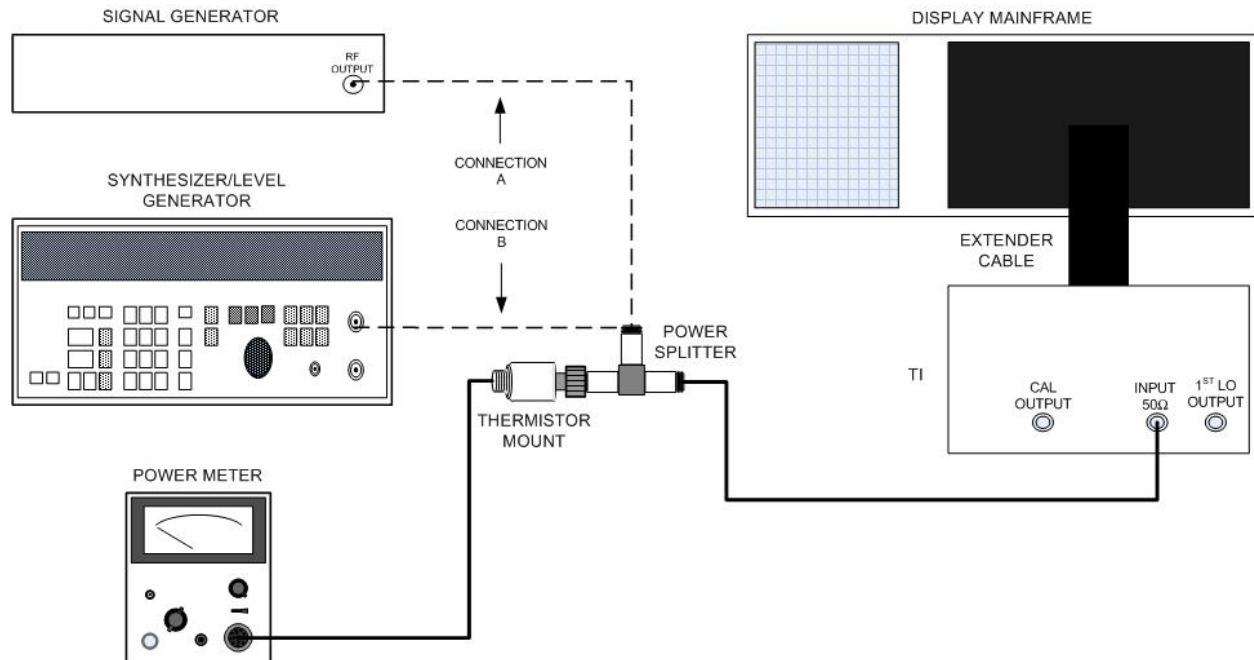

Figure 10. Frequency response - equipment setup.
(1) Position controls as listed in (a) through (e) below:
(2) Adjust **TUNING** control for an indication of 500 MHz on **FREQUENCY MHz** readout and press **FREQUENCY CAL** pushbutton.
(3) Connect equipment as shown in figure 10, connection A.
(4) Adjust signal generator frequency controls to 500 MHz and RF output controls for a reference level signal peak on 6th division above graticule baseline.
(5) Record power meter indication (reference).
(6) Slowly adjust signal generator frequency and TI **TUNING** control from 80 to 1500 MHz while maintaining power meter reference level established in (5) above. The signal level will not exceed ± 1 division of 6th horizontal graticule line.
(7) Connect equipment as shown in figure 10, connection B.
(8) Set **RESOLUTION** switch to **100 kHz** and **FREQ SPAN/DIV** switch to **1 MHz**.
(9) Adjust **TUNING** control for **80 MHz** indication on **FREQUENCY MHz** readout and press **FREQUENCY CAL** pushbutton.
(10) Adjust synthesizer/level generator frequency controls to 80 MHz and adjust amplitude controls to reference established in (4) above on TI.
(11) Slowly adjust synthesizer/level generator frequency and TI **TUNING** controls from 80 MHz to 100 kHz. The signal level will not exceed ± 1 division of 6th horizontal graticule line.